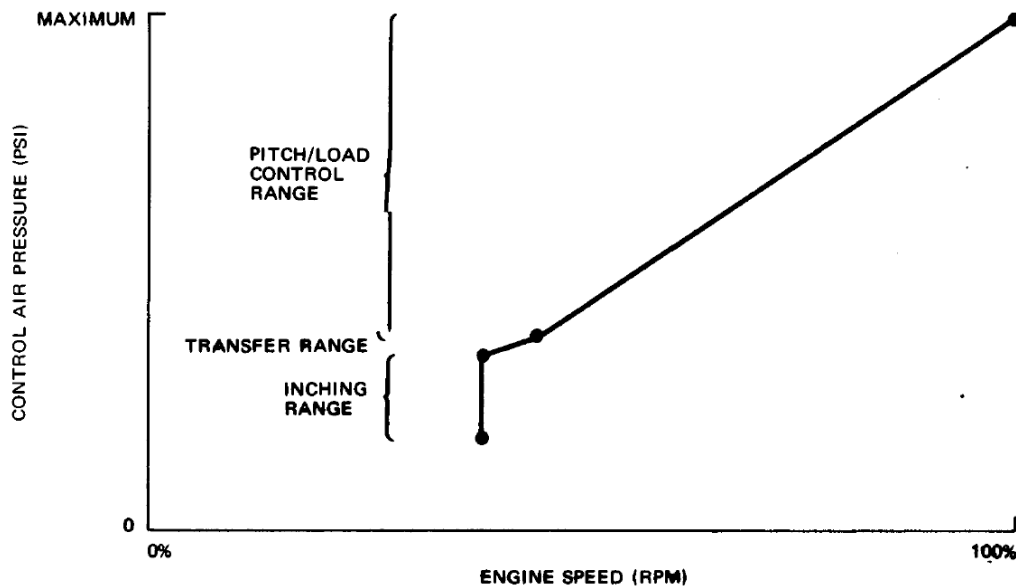

Figure 2-6. Control Air Pressure Versus Engine Speed
Pitch should start changing at 10 ± 0.5 psi (69 ± 3 kPa) (minimum pressure in the inching range) and increase as the air pressure increases. The shuttle valve should transfer out of inching between 20 and 22 psi (138 and 152 kPa) (maximum pressure in the inching range). (See Figure 2-6.) Engine operation is not required for the following checks; however, propeller oil pressure is required.
2. Use an electronic counter to check engine speed (see Figure 2-6).